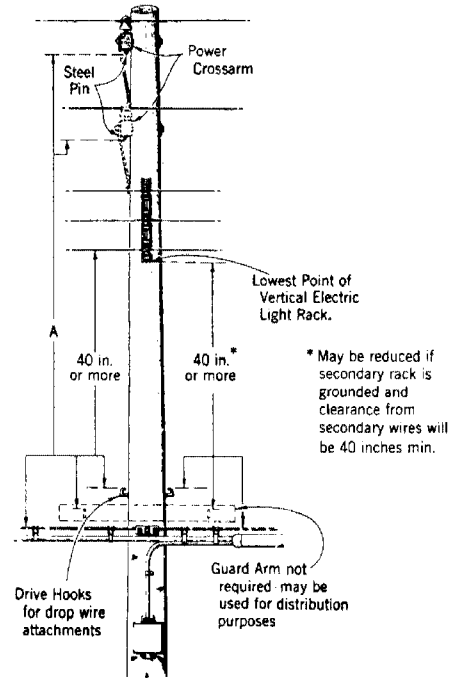
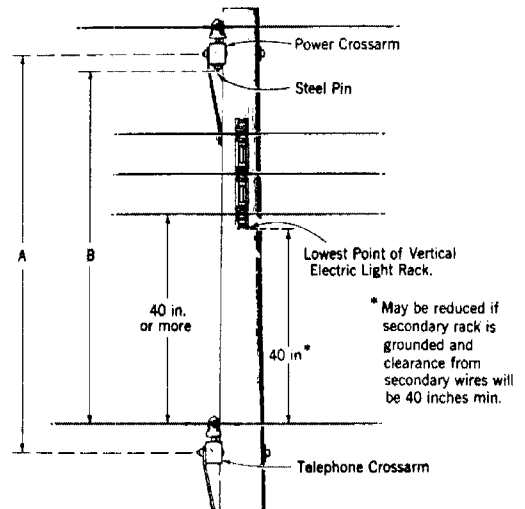

Fig. 10
Fig. 11
(b) Secondary racks (See Figs. 10, 11)
(c) Steel pins (A on Fig. 10, B on Fig. 11)
4.05 Minimum vertical spacings between power and telephone crossarms shall be as follows: (Measured between crossarm centers.) ("A" on Fig. 11.)